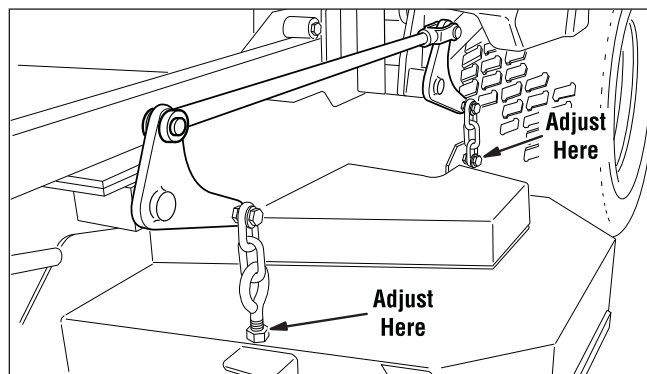

Figure 36. Hanger Chain Adjustment
jam nuts. See Figure 36.
5. Loosen the nuts and allow the rear of the deck to rest on the 2 x 4's. Slide the chains down in the slots until the chains are tight and tighten the nuts. See Figure 36.